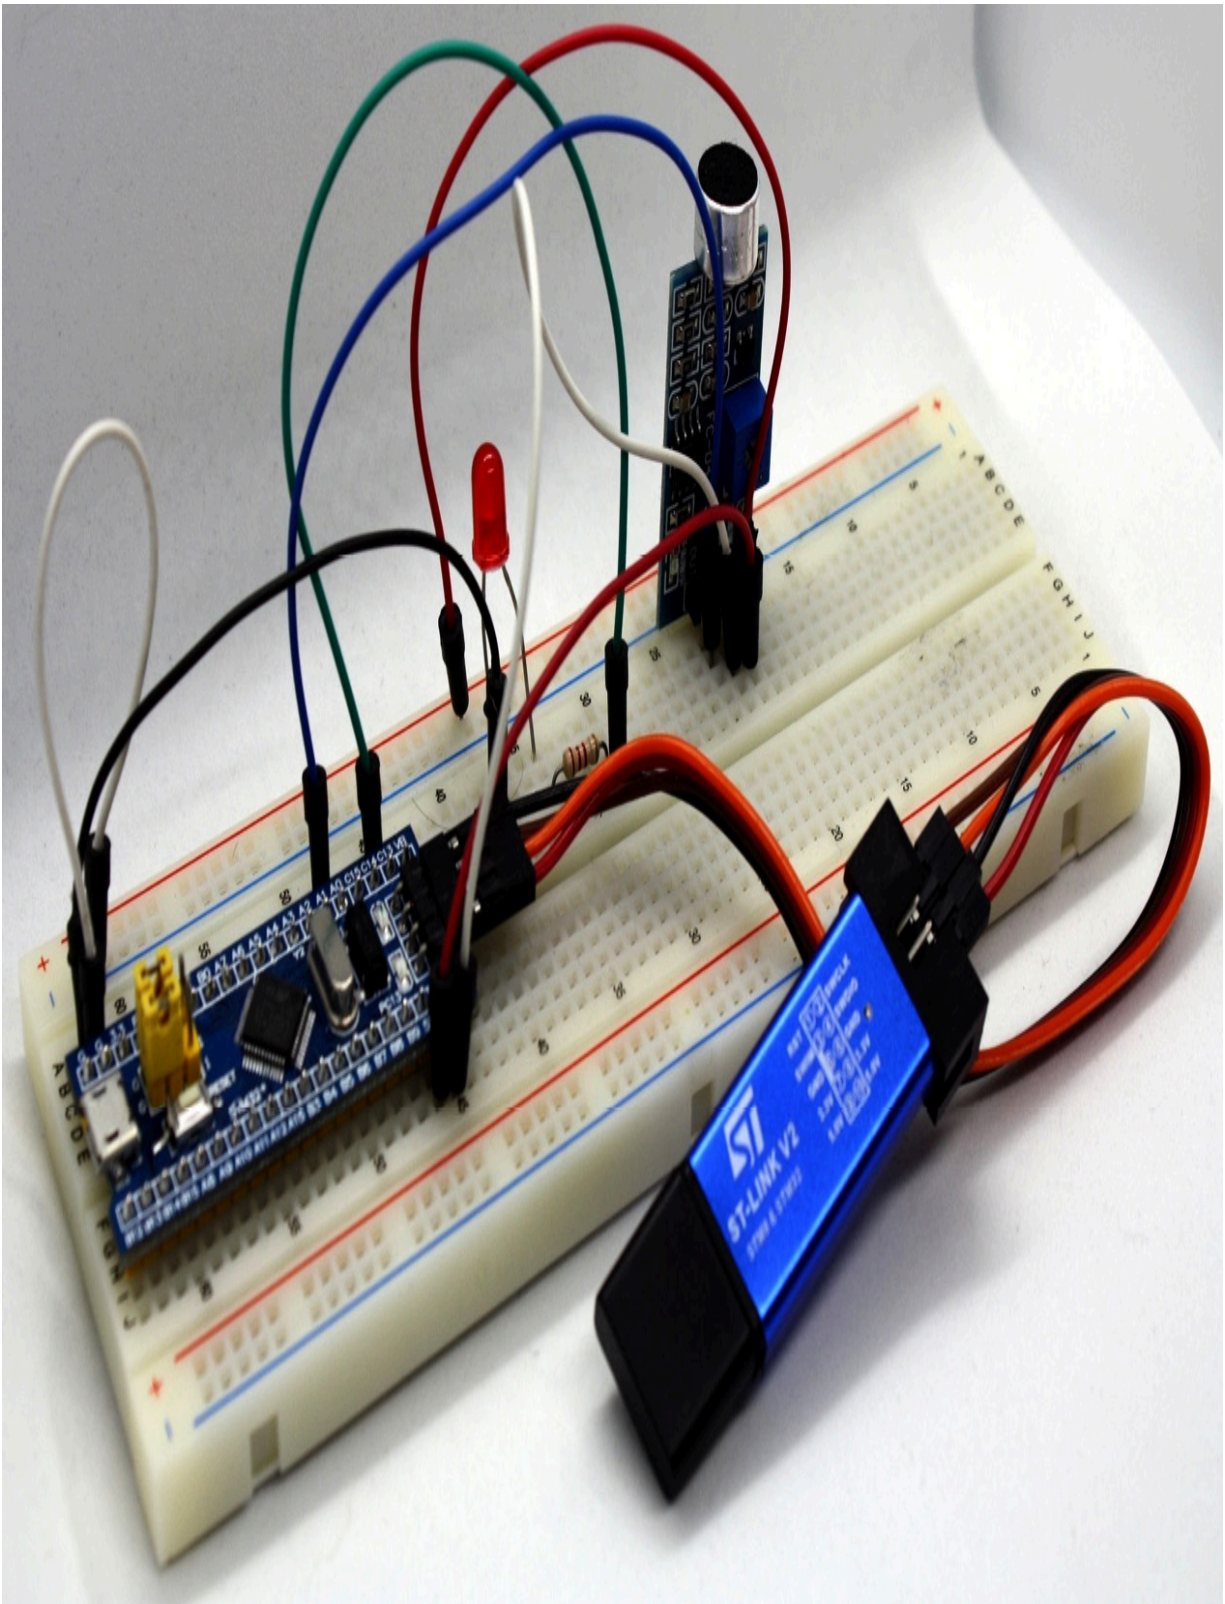

Figure 7.9 – Clap switch device
The schematics figure shows the electric diagram for the complete project. *Figure 7.9* shows how everything is connected in our **do it yourself (DIY)** clap switch:
*Figure 7.9* shows how all the finished hardware connections will look.